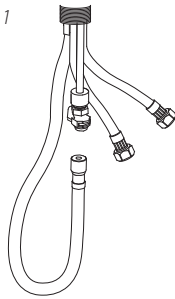

Figure 2
3. Once the pullout hose is attached to the connector, let the hose hang naturally. Install the pull-out weight 4" away from the lowest point of the loop, in the opposite direction of the connector. (See *Figure 2*)
4. Before connecting the faucet to the water lines, make sure to flush the lines completely by running the water supply lines into a bucket or container. Use the adjustable wrench to attach the hot and cold water supply lines accordingly. (See *Figure 2*)